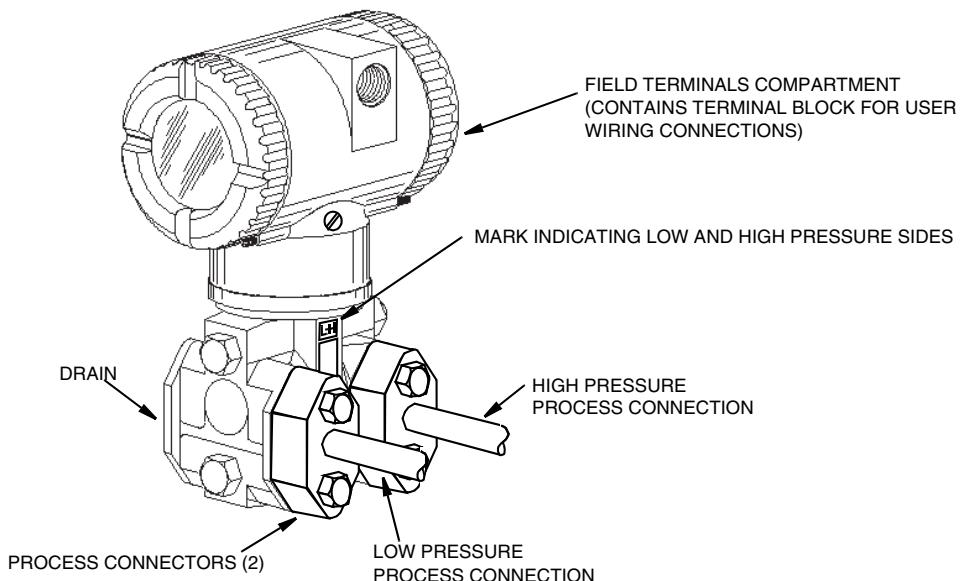
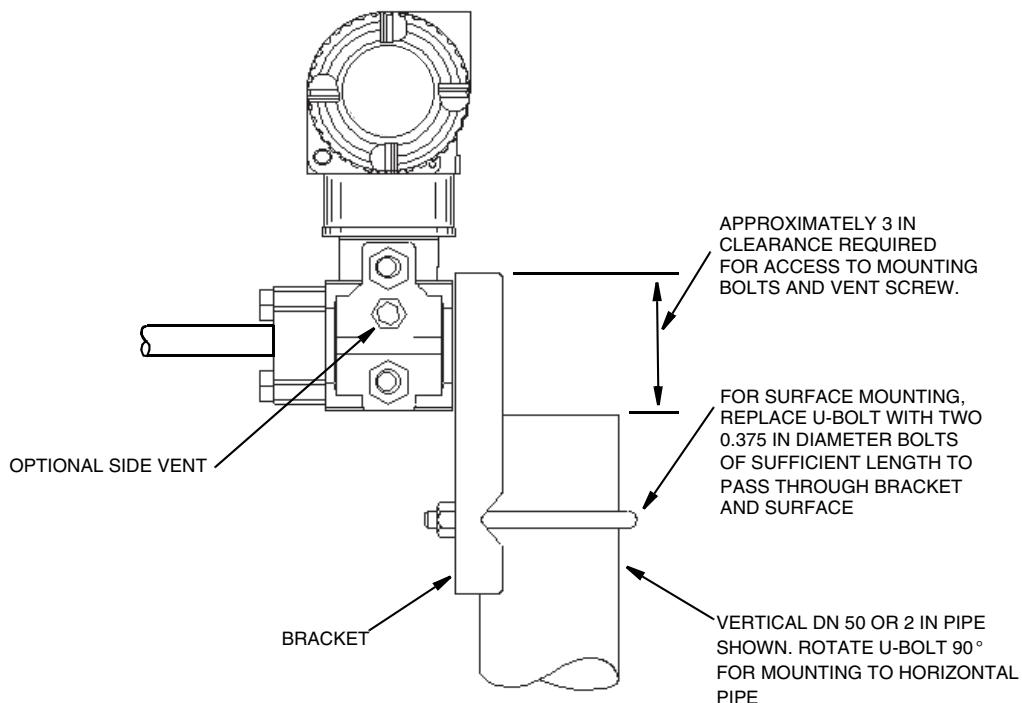

Figure 3. Process-Mounted Transmitter
Figure 4. Mounting Transmitter to a Pipe or Surface
The transmitter can be supported by the process piping as shown in Figure 3 or mounted to a vertical or horizontal pipe or surface using the optional mounting bracket shown in Figure 4.
1. If the transmitter is not installed in the vertical position as shown in Figure 3 or Figure 4, readjust zero output to eliminate the position zero effect.
Figure 3 shows the transmitter mounted to and supported by the process piping.
Referring to Figure 4, secure the mounting bracket to the transmitter using the two lockwashers and screws provided. Mount the transmitter with mounting bracket to a vertical or horizontal, DN 50 or 2-in pipe. To mount to a horizontal pipe, turn the U-bolt 90° from the position shown in Figure 4. The mounting bracket can also be used for wall mounting by securing the bracket to a wall using the U-bolt mounting holes.
Mount transmitters below the level of the pressure connection at the tank. Note that the high and low pressure sides of the transmitter are identified by an L-H marking on the side of the sensor as shown in Figure 3.